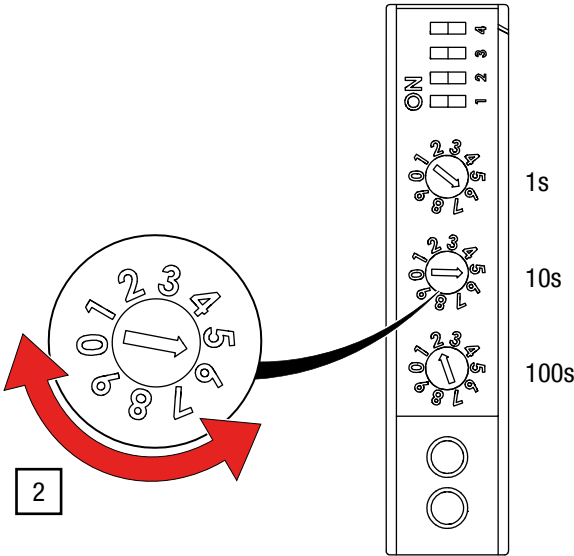

Fig. 107: Rotary dials for setting the DMX address on G-FRAME control unit
- 2. Turn the adjustment wheels for the DMX channels on the three adjustment wheels (units, tens, and hundreds digits) with a screwdriver to the desired digit (see Fig. 107).
In the example in Fig. 107, DMX address 256 is set as an example. The slide switches 1–4 ('DIP switches') remain switched off ('off').